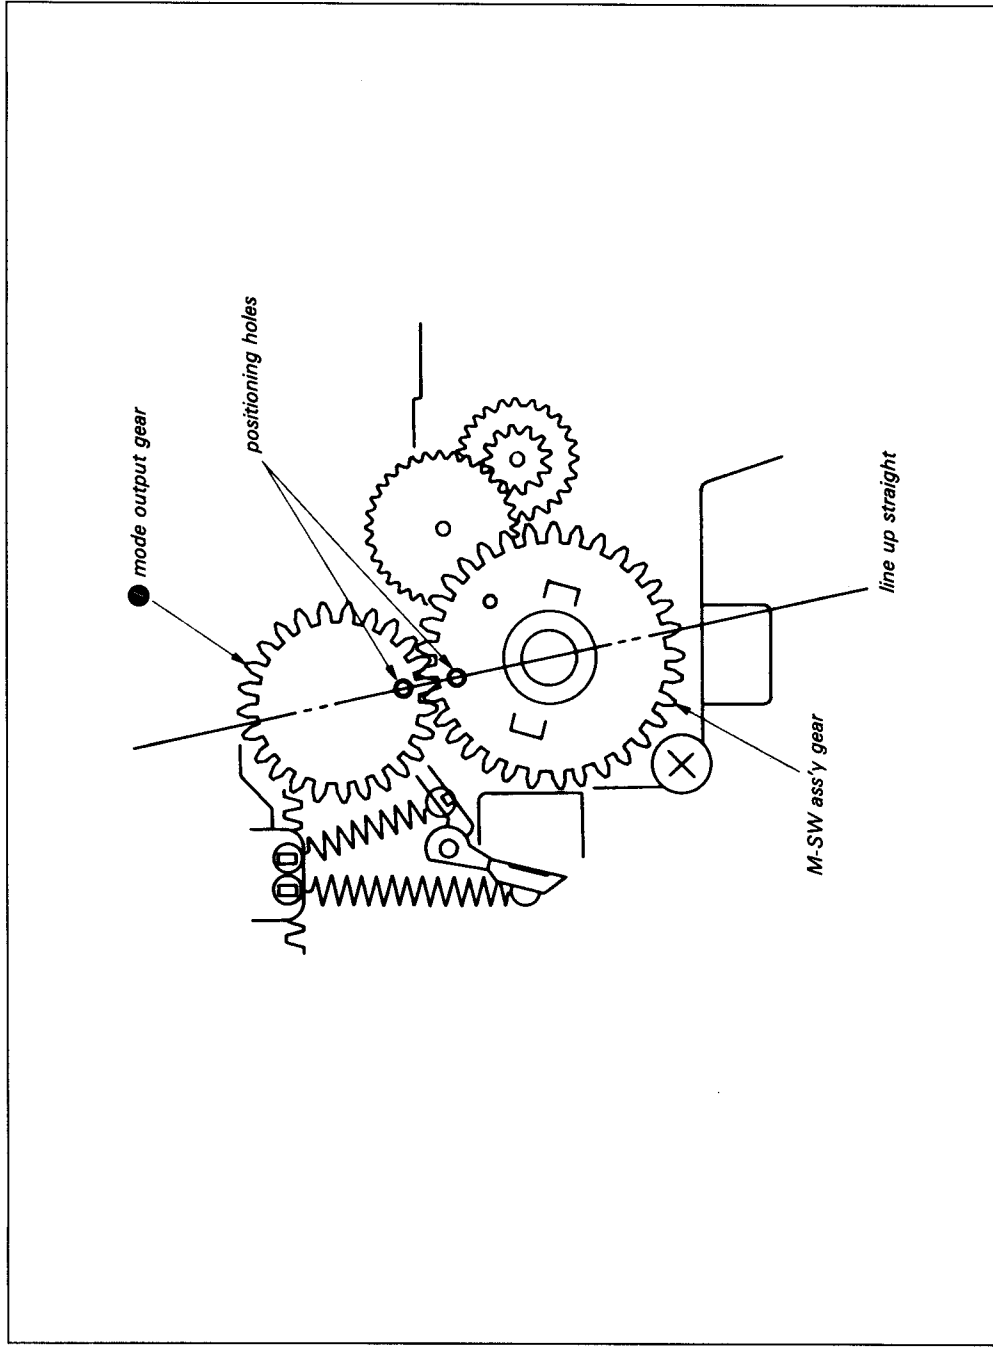

Fig. 7-39.
- 8) Mount the mode output gear ● so that the positioning holes are lined up. (See Fig. 7-39.)